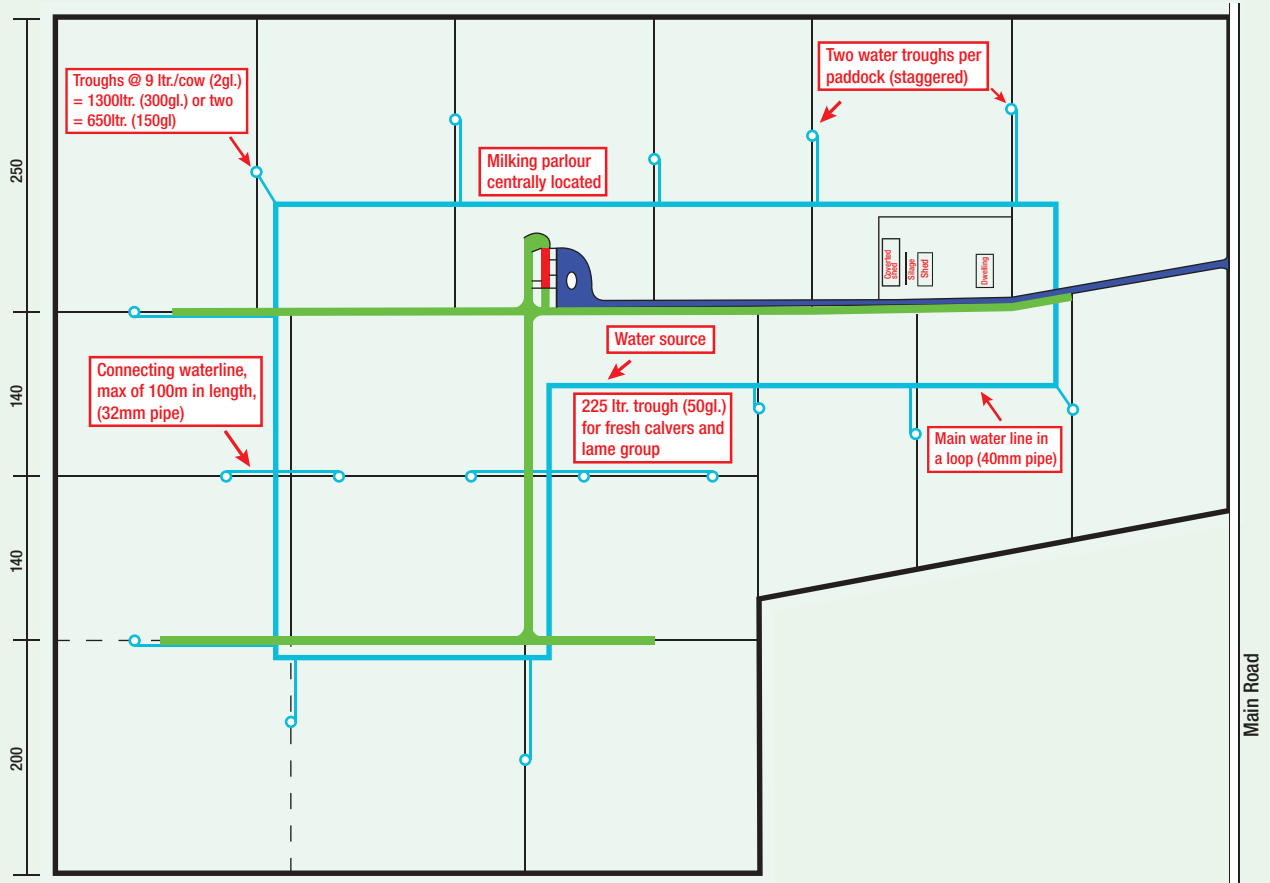

Figure 3. 60ha farm showing farm roadway, paddock design and water system (blue)
- If there are two troughs per paddock - they should be staggered. One in the first half, the other in the second half (see Fig.3).